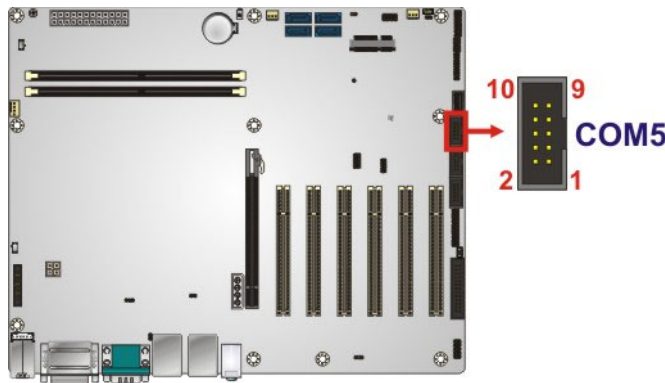

Figure 3-25: RS-232/422/485 Connector Location
- CN Location:** See **Figure 3-25**